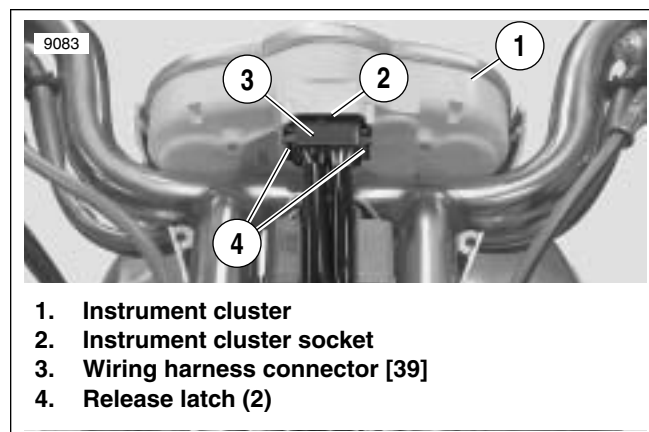

Figure 8-56. Instrument Cluster Harness Connector [39]
5. See Figure 8-56. Squeeze two release latches together and gently pull wiring harness connector [39] from instrument cluster socket.
2. See Figure 8-56. Install wiring harness connector into instrument cluster socket. Gently push connector into socket until release latches lock into place.